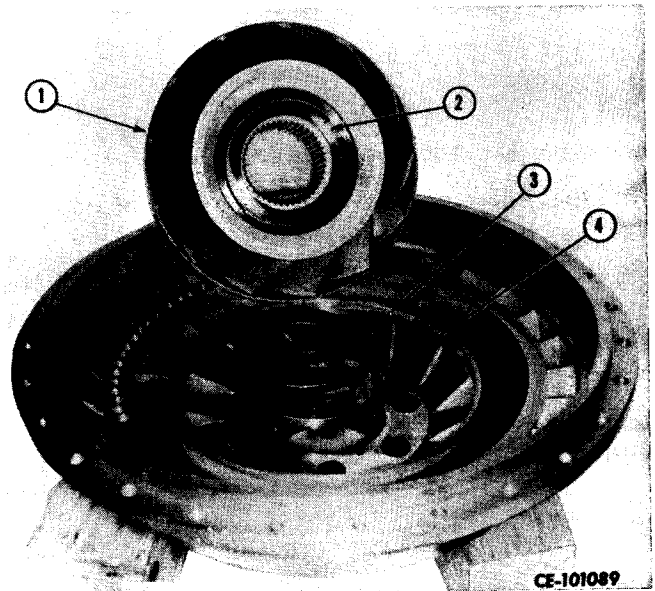

Figure 3-26
Remove stator (1, Fig. 3-26), thrust race (2), thrust bearing (3) and converter spacer (4) from impeller.